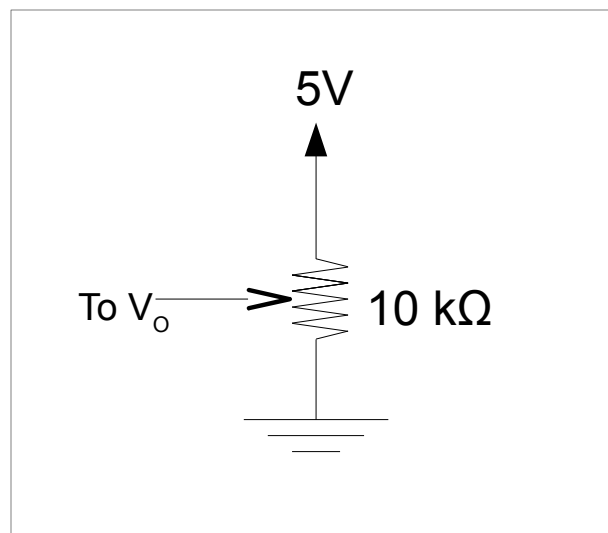

Figure 3: User-Settable Contrast Control
- V_O : This voltage controls the contrast of the screen. A potentiometer is often used to vary this value, as shown in figure 3.
- Register Select (RS): The logic value on this pin tells the driver whether the data being sent is an instruction (Logical LOW) or a piece of data (Logical HIGH). Instructions control things like cursor position and scrolling, whereas data contains actual characters to be